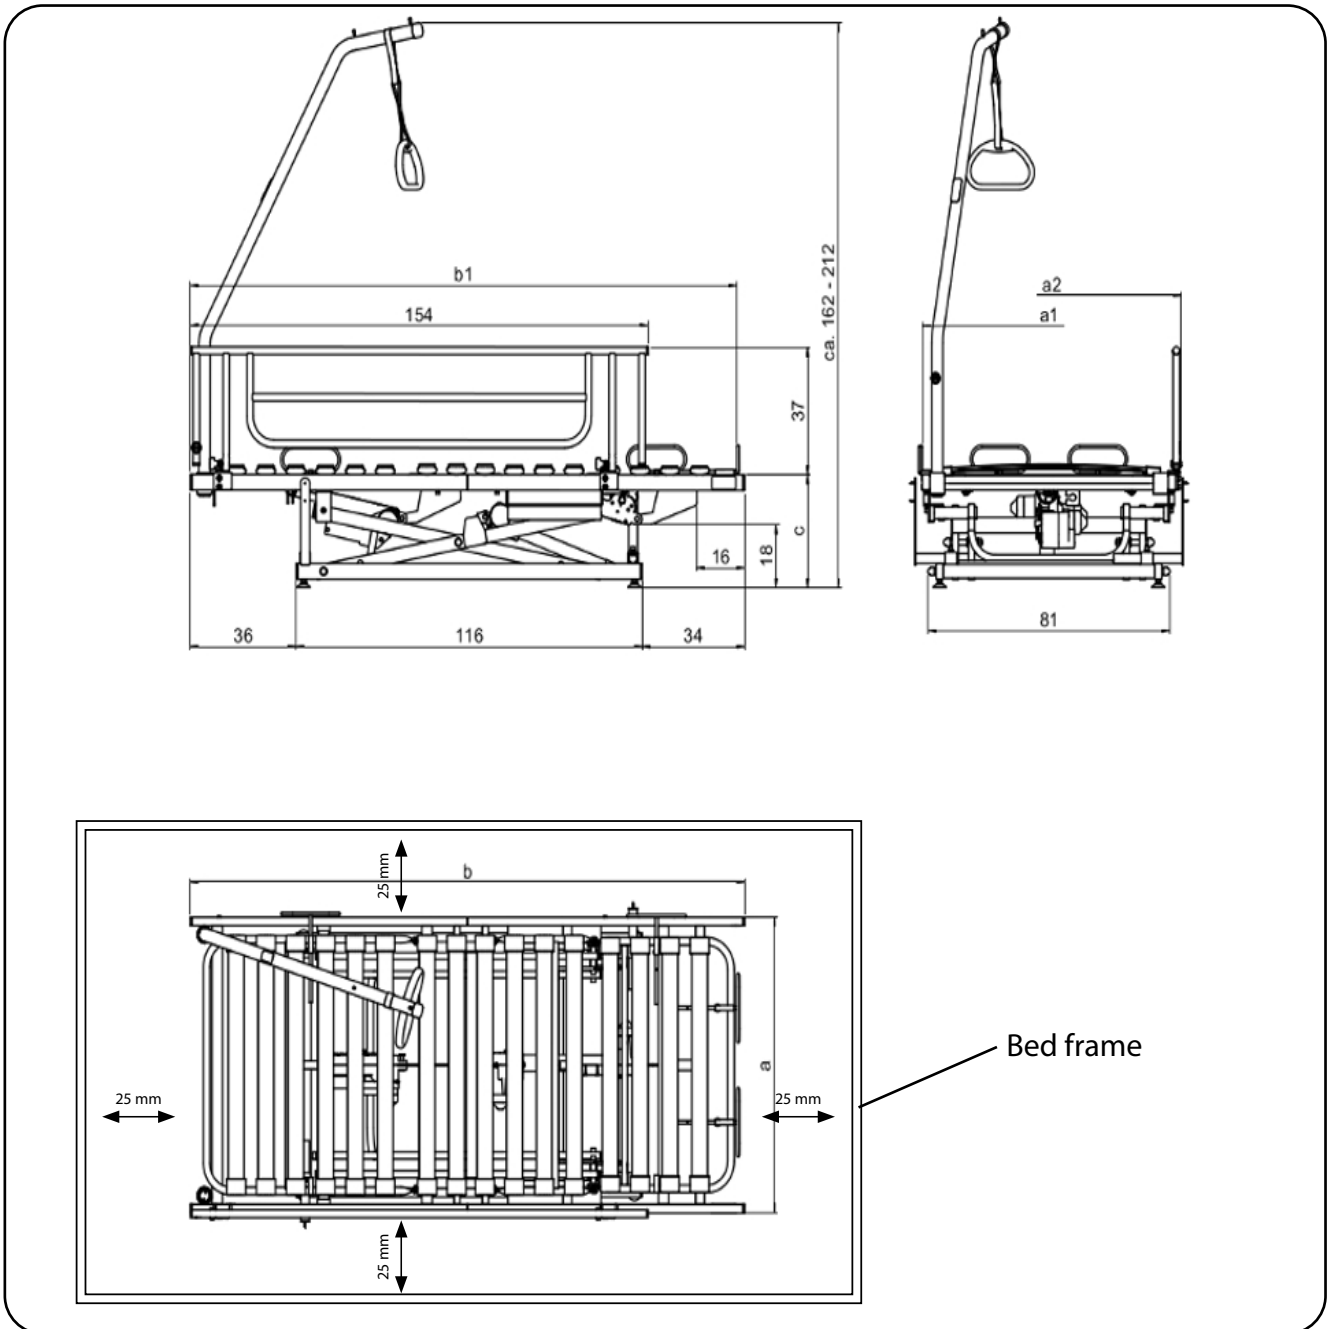

Fig. 6.1.01 - Dimensions drawing for assembly in an existing bed frame (in cm)
Before assembly, use the dimensions drawing (Fig. 6.1.01) to check that the product fits into your bed frame. Observe the required circumferential safety distance of 25 mm!
1. Use the dimensions drawing to check that the lifting homecare bed frame is in the correct position in the bed frame (Fig. 6.1.01/6.1.02).